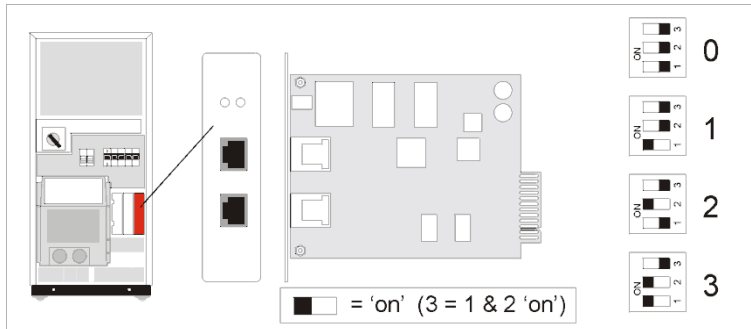

Figure 18. Appointing a unique number to each UPS in the system
5. The right option slot (14) at the rear of the unit contains the RPA-card. Before the parallel system can be put into operation a unique number has to be appointed to each UPS in the system. This can be 0, 1, 2 or 3. Start with 0 for the first unit, 1 for the second, 2 for the third and 3 for the last unit:
- set the dipswitch to the appointed number (fig. 18)